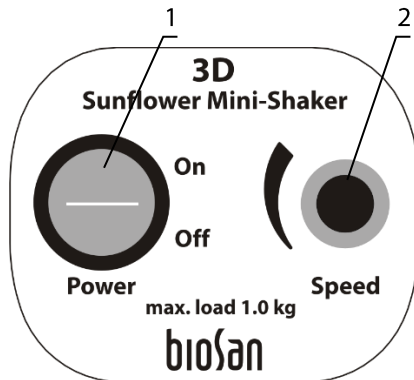

Fig. 2. Control panel of a model 3D
- 5.1.3. Switch on the **Power** switch (fig. 2/1).
- 5.1.4. Use the speed control knob (fig. 2/2) to adjust the shaking speed to the required setting.